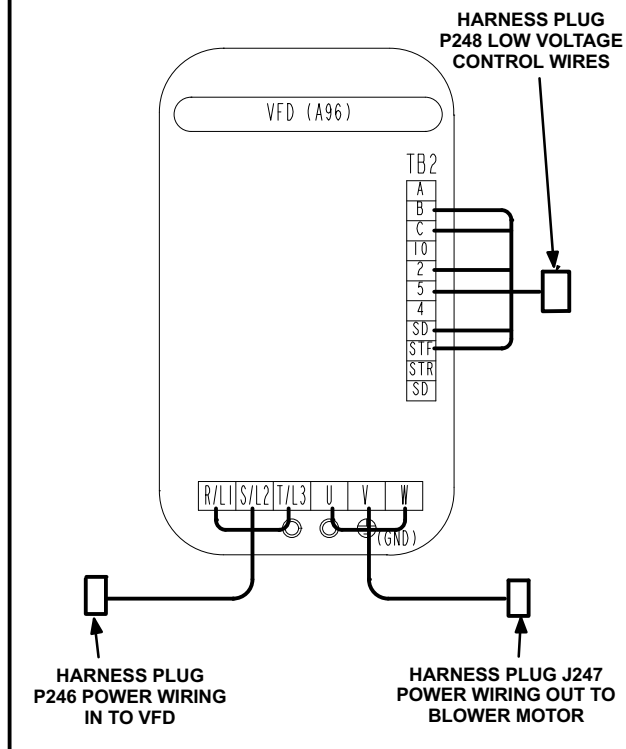

FIGURE 1
- 5- Carefully connect existing wires to the replacement VFD as illustrated in figure 1. On units without harnesses, take care to properly connect the power wiring going into and out of the VFD. When replacing a Toshiba inverter, see the Toshiba VFD Replacement section.